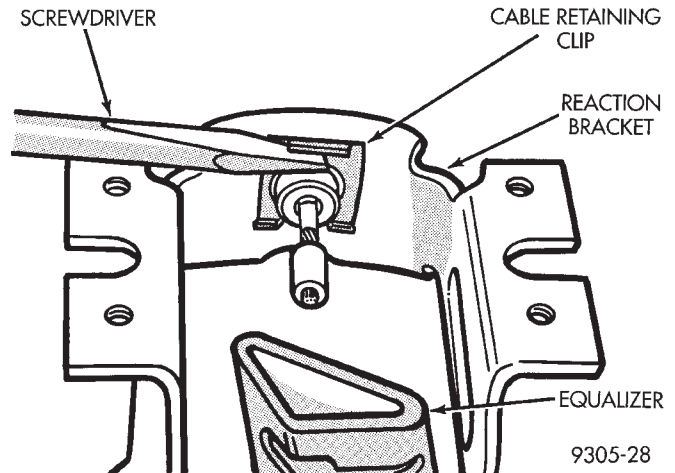

Fig. 99 Front Park Brake Cable Retaining Clip
(7) Remove the front park brake cable to reaction bracket retaining clip, by prying it off cable using a screwdriver (Fig. 99).